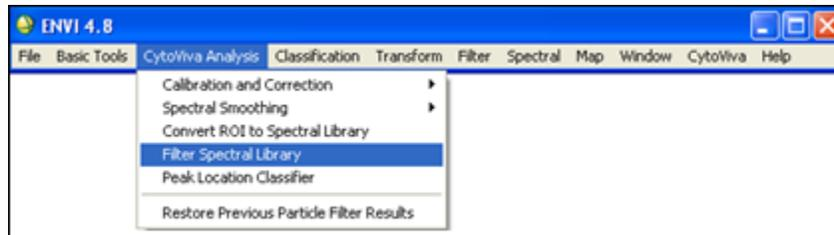

Figure 9.1a: CytoViva Analysis Tab
- Then click the Filter Spectral Library (Figure 9.1a).